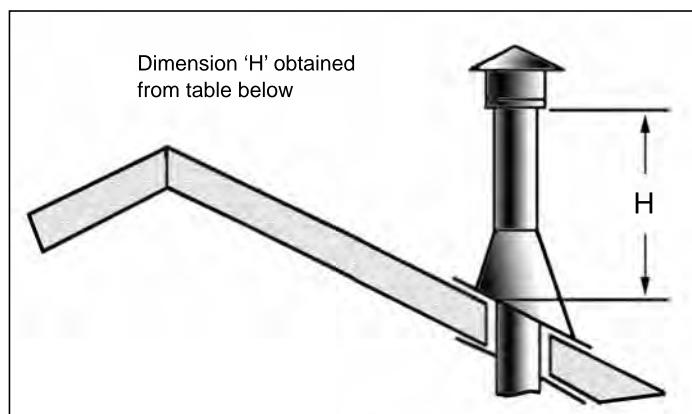

Figure 64: Height of Vertical Termination;
Step 8. Continue to add pipe sections until the height of the vent cap meets the minimum code requirements. Refer to Figure 64 and Table 7. Note that for steep roof pitches, the vent height must be increased. In high wind conditions, nearby trees, adjoining roof lines, steep pitched roofs, and other similar factors can result in poor draft, or down drafting. In these cases, increasing the vent height may solve the problem.
Step 9. Slip the storm collar over the pipe, and push it down to the top of the roof flashing as shown in Figure 64. Use the non-hardening sealant around the joint between the pipe and the storm collar.
Table 7: Minimum 'H' for Figure 64.